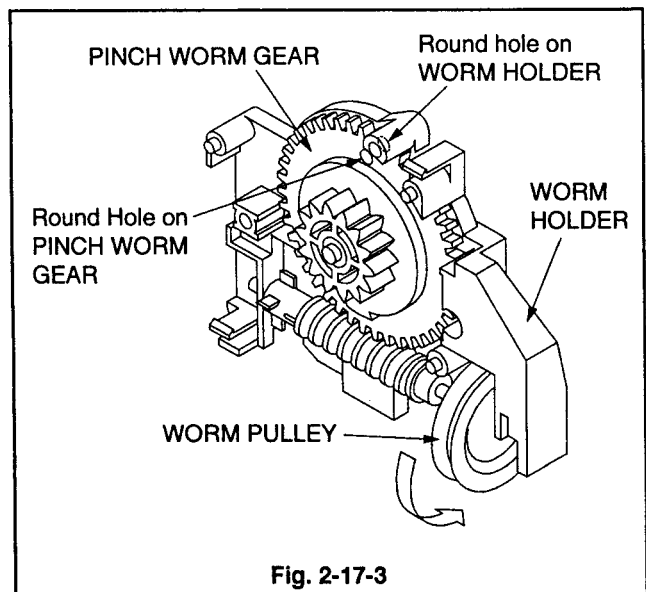

Fig. 2-17-3
3. Turn the WORM PULLEY shown in Fig. 2-17-3 so that the Round Hole on PINCH WORM GEAR matches with that on WORM HOLDER.